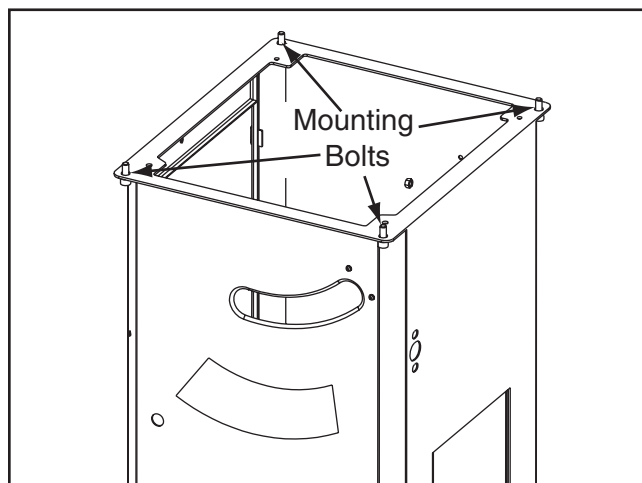

Figure 113. Table mounting bolts.
6. To adjust the table, loosen the four cap screws in the table mounting locations (see **Figure 113**) and slightly tap the table in the needed direction. Repeat **Steps 2–5** until the blade and miter slot are parallel.